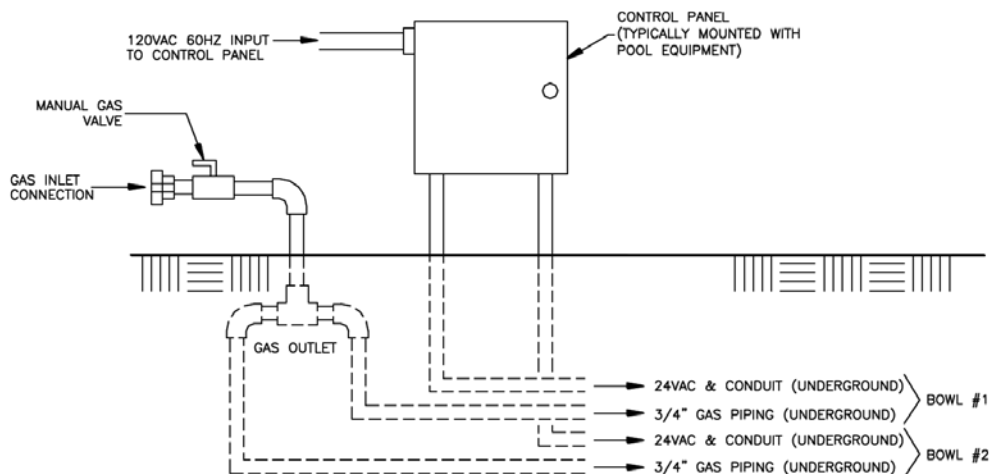
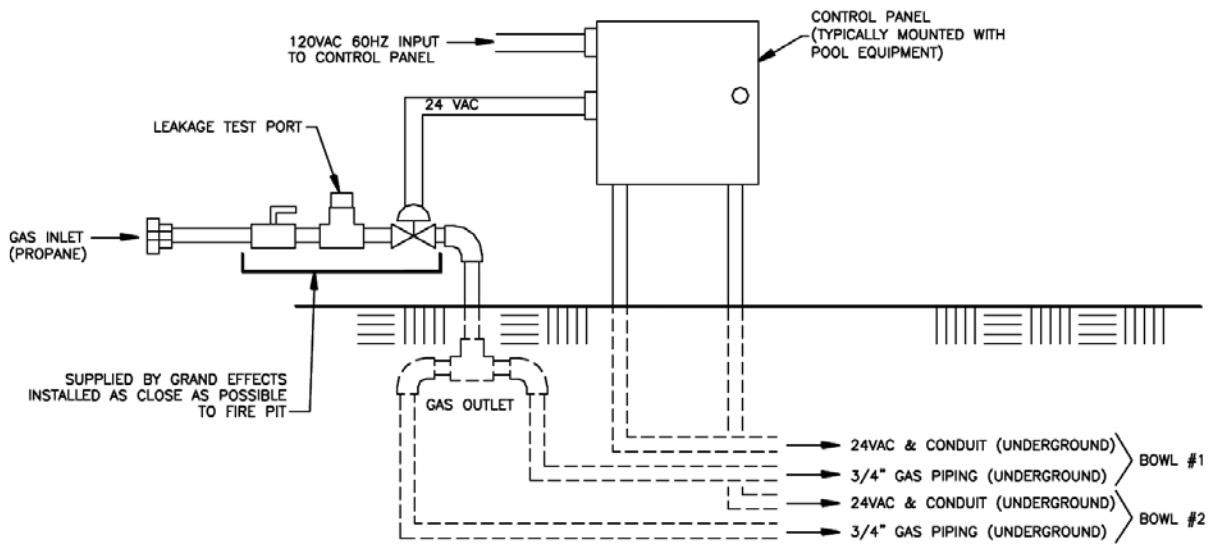
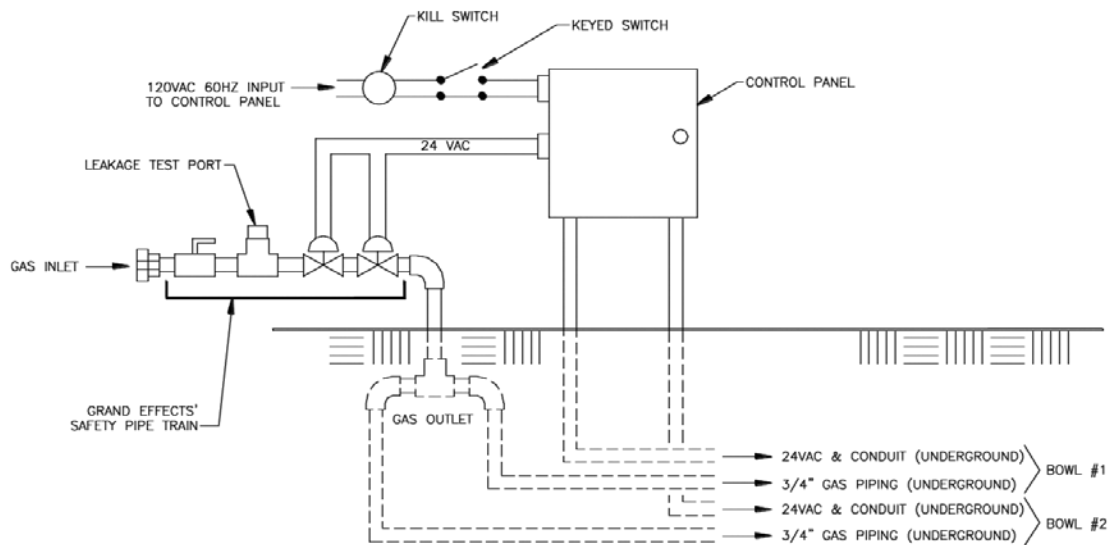

Figure 1: Natural Gas
Figure 2: Propane Gas
Figure 3: Commercial Installation
1. Install the control panel and gas piping as shown in Figure 1: Natural Gas, Figure 2: Propane Gas, or Figure 3: Commercial Installation.
Note: Propane piping is different than natural gas piping (shown in Figure 1 and Figure 2).
2. The gas piping must be installed underground between the control panel and each fire or water bowl, as shown in Figure 1.